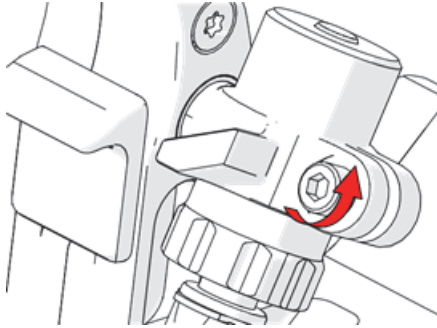

Figure 1-40 Unlocking the drive wheel tension cylinder
1. Unlock the securing mechanism to change the preset on the drive wheel tension cylinder using a 4mm hex driver (see Figure 1-40 on page 55).
4. Lock the securing mechanism on the drive wheel tension cylinder using a 4mm hex driver (see Figure 1-40 on page 55).